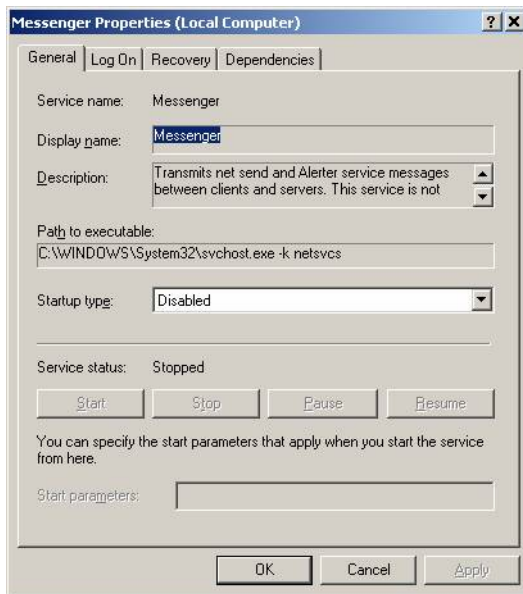

Figure 7.8 Activate Messenger
5. Right-click the **Messenger** service and select **Properties** (Figure 7.8).